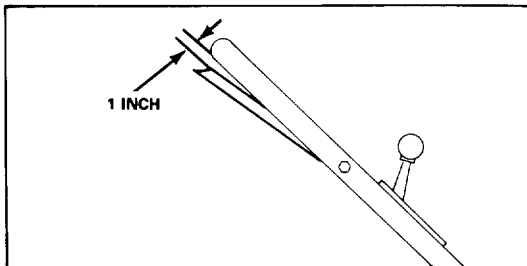

Figure 19
3. **CHECK ADJUSTMENT**–Slowly pull mower backward while control bar is gradually moved toward handle. Adjustment is correct when rear wheels stop turning and control bar is about 1 inch from handle (Fig. 19).